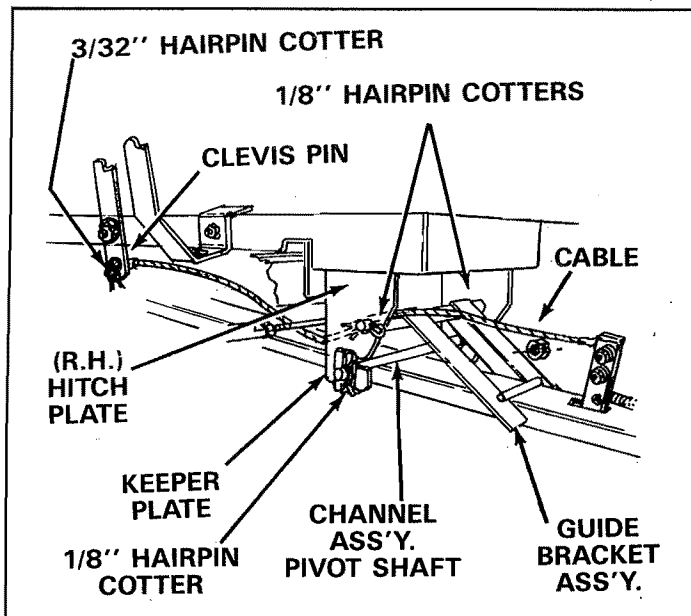

**FIGURE 23**
2. Refer to figure 23 below and;
- C. Re-assemble one 3/8"-16 x 3/4 carriage bolt and 3/8" hex nut in hole labeled A and B in figure 23 on each side of tractor frame. Also see figure 5 on page 4.